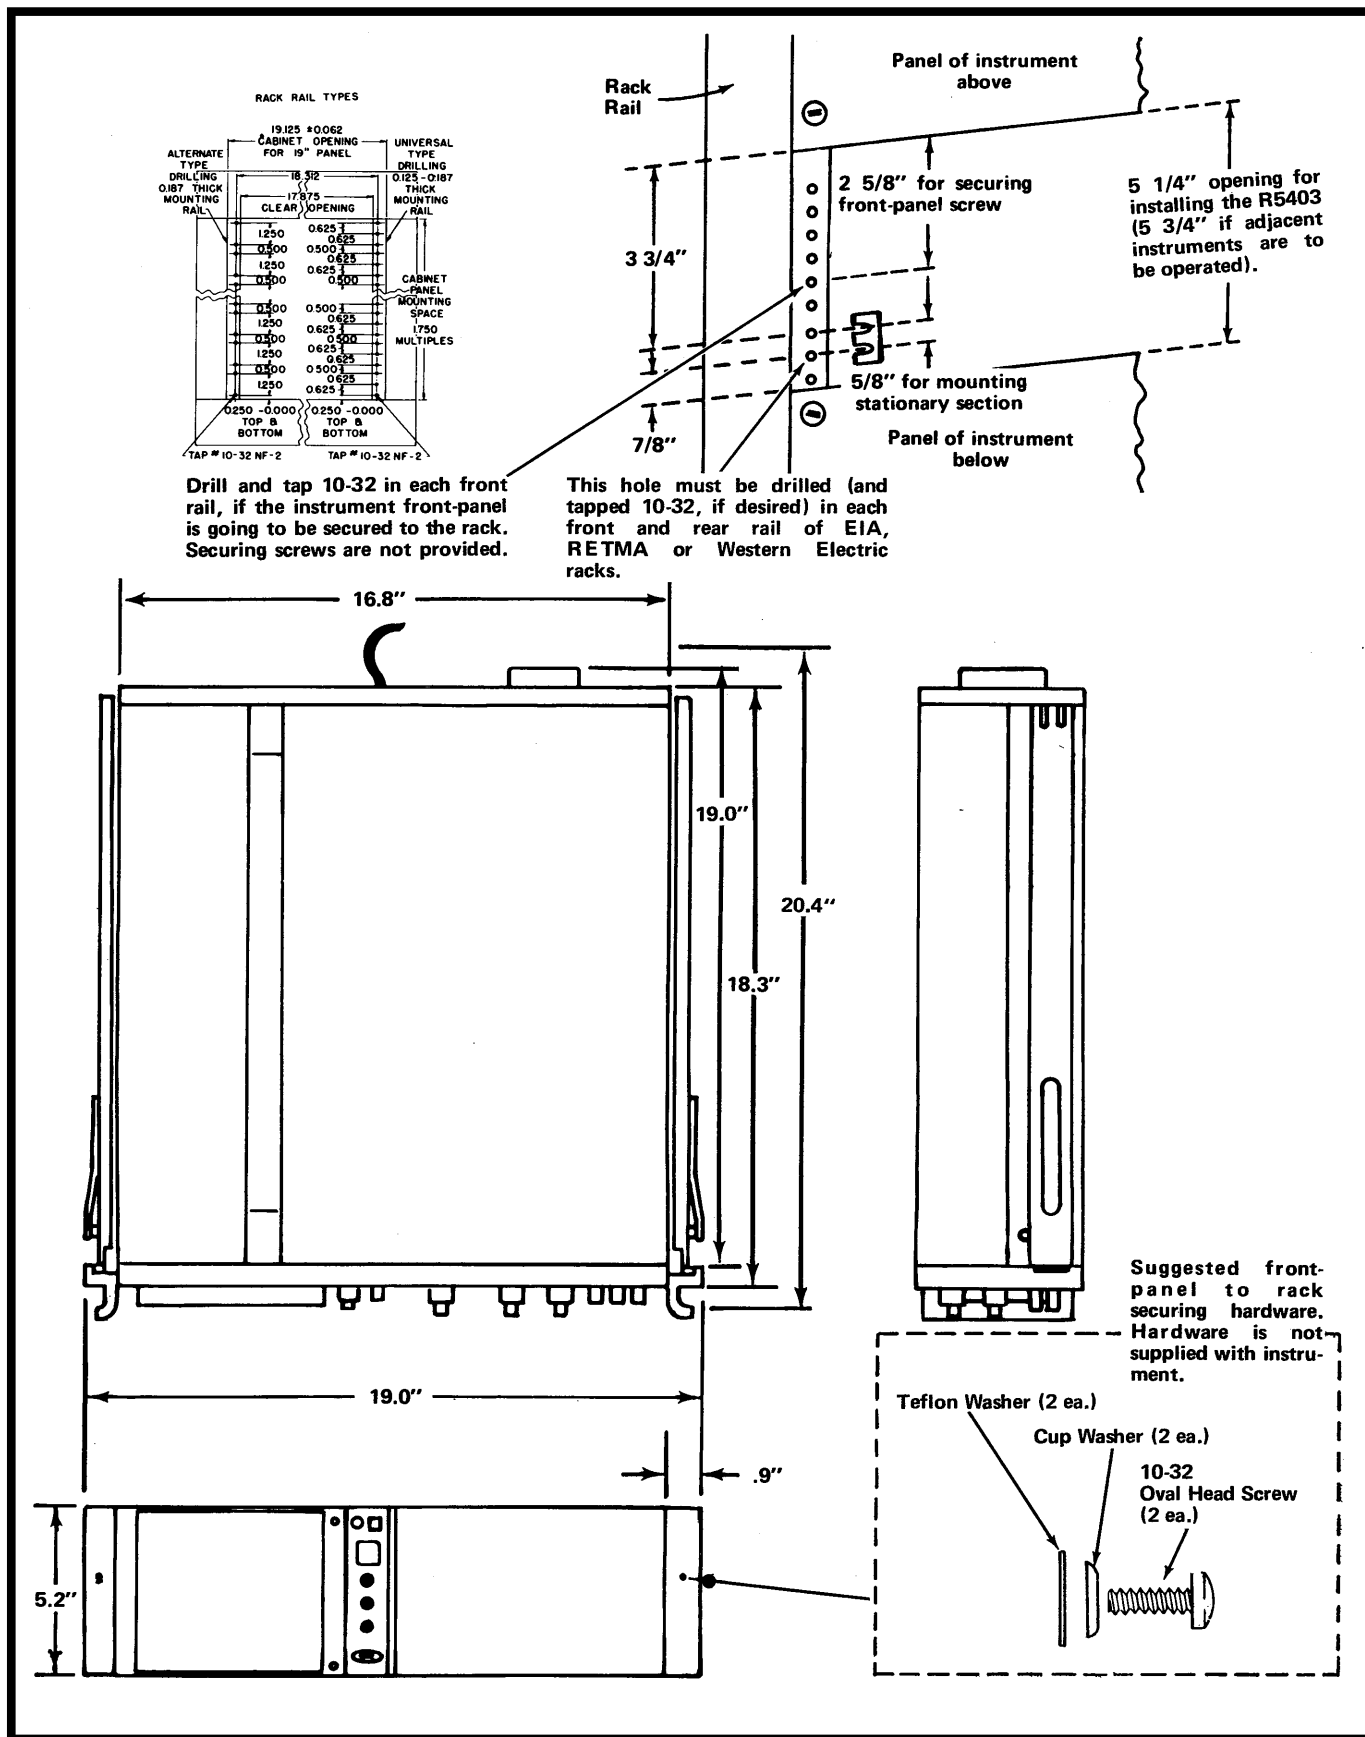

Fig. 0-3. Dimensional diagram.
1. To mount the instrument directly above or below another instrument in a cabinet rack, select the appropriate holes in the front rack rails for the stationary sections, using Fig. 0-3 as a guide.
To secure the instrument front-panel to the rack, the rack must either have universal hole spacing, or a hole must be drilled and tapped for a 10-32 screw, see Fig. 0-3. Using the hardware (not furnished) indicated in Fig. 0-3, secure the R5403 to the front rails of the rack.